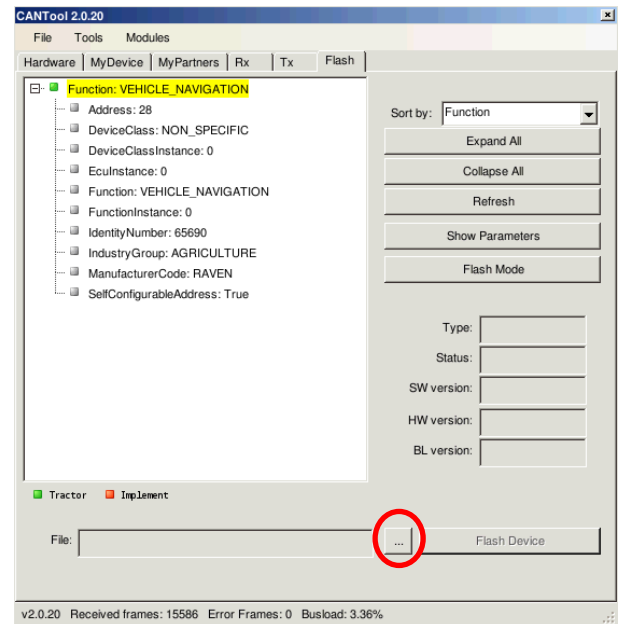

Figure 7 CANTool – Flash.
11. Click "...". (see red circle Figure 7).